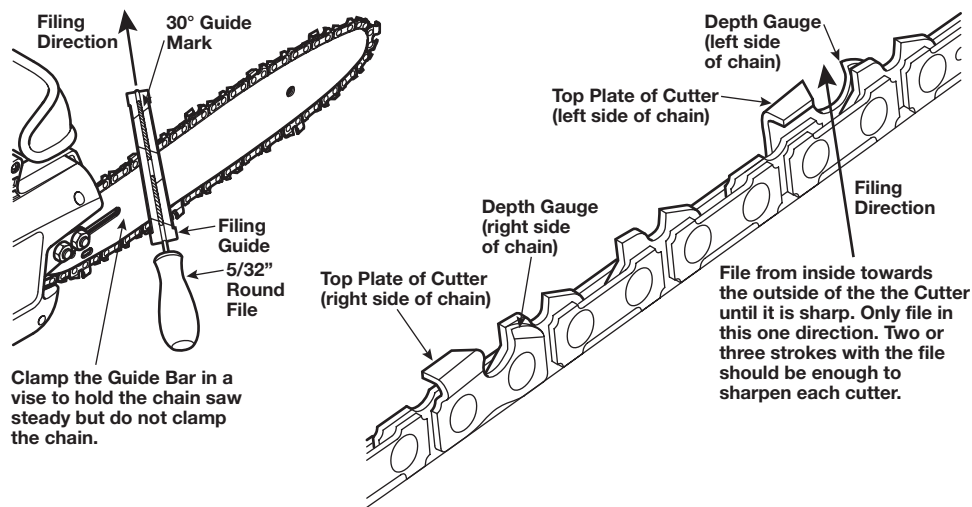

Fig. 20 File and File Guide Placement on the Chain
3. Press the 5/32" round file, attached to file guide, into groove between the top plate and the depth gauge on the chain. The file guide should rest on both the top plate and depth gauge (Fig. 20).
4. Hold the file at guide level. Make sure that the 30° mark on the file guide is parallel to the center of the guide bar (Fig. 20). This will ensure that you file the cutters at a 30° angle.
5. File from inside towards the outside of the cutter until it is sharp. Only file in this one direction (Fig. 20).